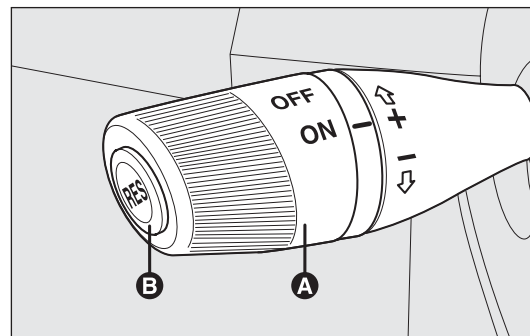

fig. 45
Turn twist switch A-fig. 45 to ON.
- ☐ turn twist switch A-fig. 45 to ON and press the accelerator pedal until you reach the required speed;
- ☐ press button RES B-fig. 45.
- ☐ pressing the accelerator pedal; in this case, the system is not really switched off but the request for acceleration takes priority. The cruise control is, however, active and you do not need to press button RES B-fig. 45 to restore the previous conditions when you have finished accelerating.